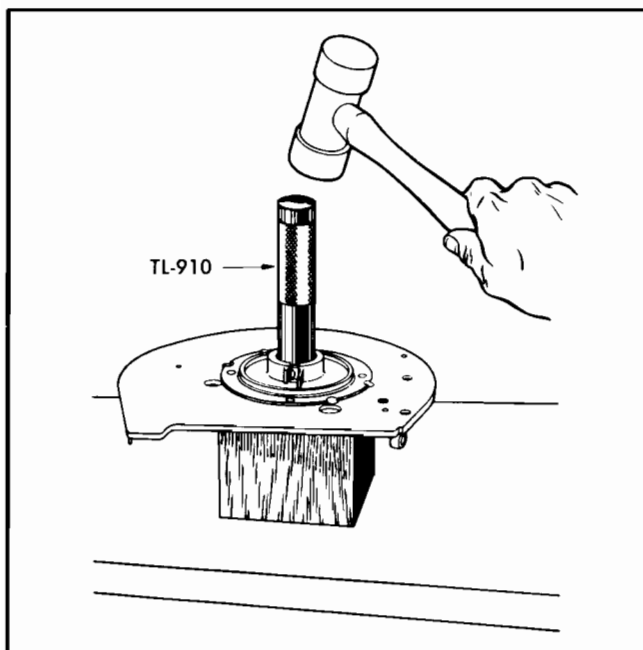

Figure No. 52—Driving Bearing from Bearing Plate
3. Remove the bearing from the bearing plate, using the main bearing driver(s) (See Figure No. 52). **Caution:** When removing the bearing from the bearing plate, make certain the plate is blocked up squarely with the face of the plate on a block of hard wood or a piece of